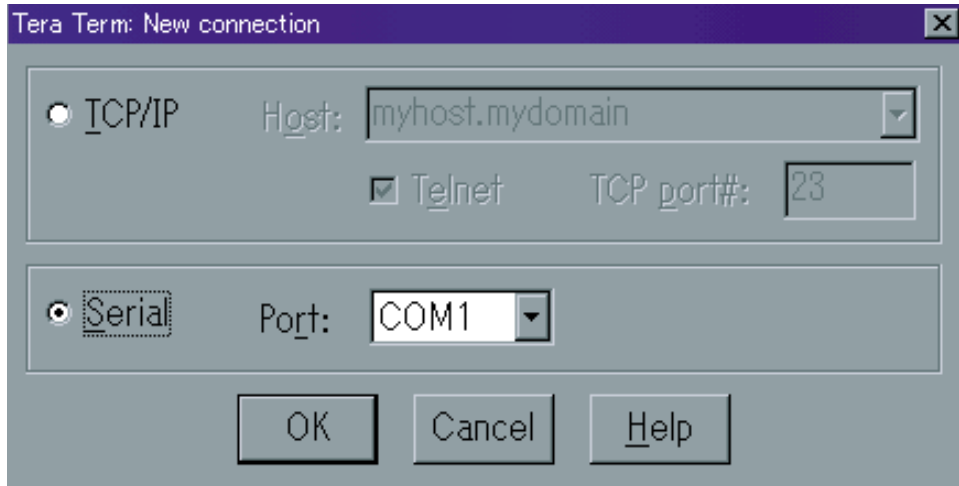

Fig. 2
- Start Tera Term and set up Serial Port. Figs. 2, 3, 4)